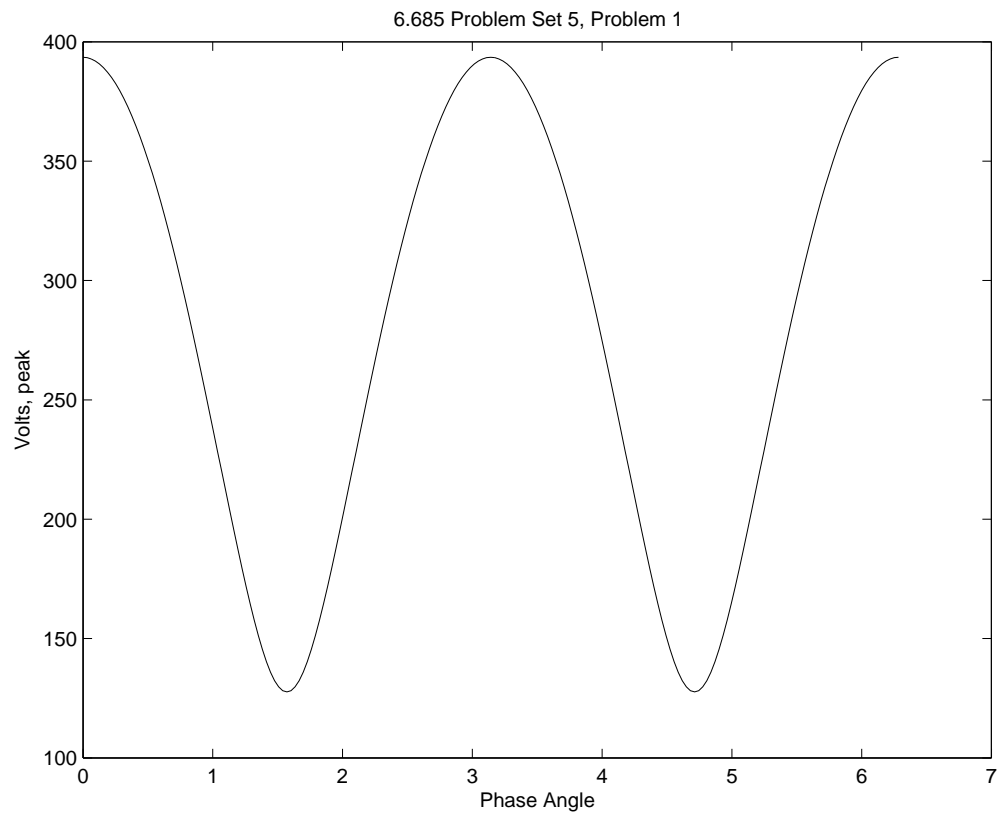

Figure 1: Induced Voltage Magnitude
3. See Figure 1 and attached script.